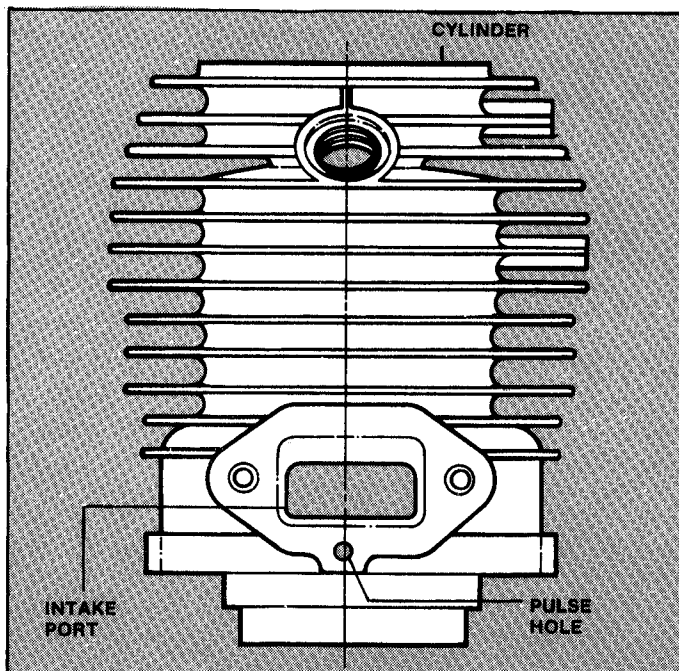

FIGURE 2.12
- C. The cylinder carburetor mounting surface (intake) is provided with an air hole (pulse hole) which transmits the pressure variation in the crankcase to the diaphragm pump in the carburetor. This pulse hole is used **ONLY** for engines with a diaphragm valve type carburetor (D Type). It is **NOT** to be used with a float valve type carburetor. See Figure 2.12.